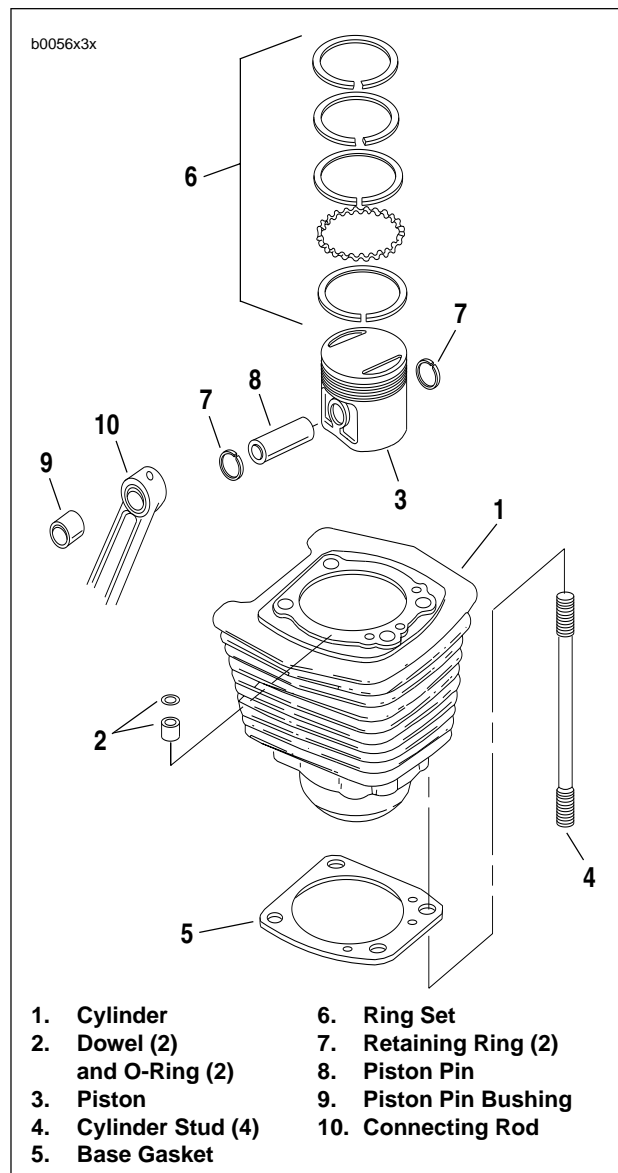

Figure 3-29. Cylinder and Piston
4. See Figure 3-29. Turn engine over until piston (3) of cylinder being removed is at bottom of its stroke.
5. Carefully raise cylinder (1) just enough to permit placing clean towel under piston to prevent any foreign matter from falling into crankcase.
- See Figure 3-29. Spread piston rings (6) outward until they clear grooves in piston (3) and lift off.